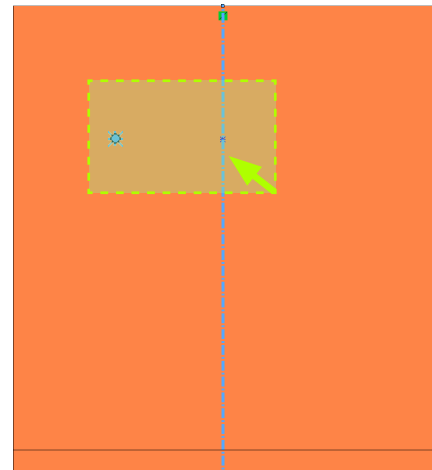

Fig. 25
Step 9. **Drag a selection to left** select all geometry, Fig. 25.